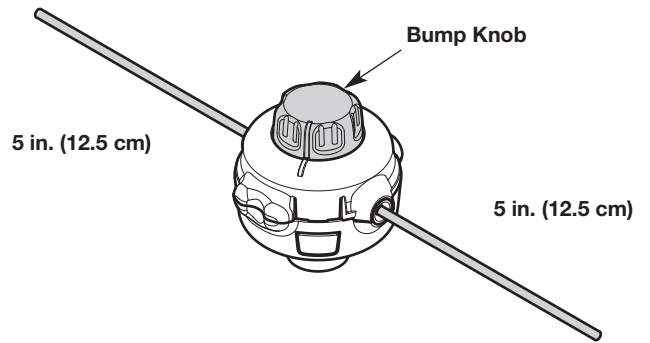

Fig. 25
- Turn the bump knob to wind the line until about 5 inches (12.5 cm) protrude from each side of the cutting head (Fig. 25).